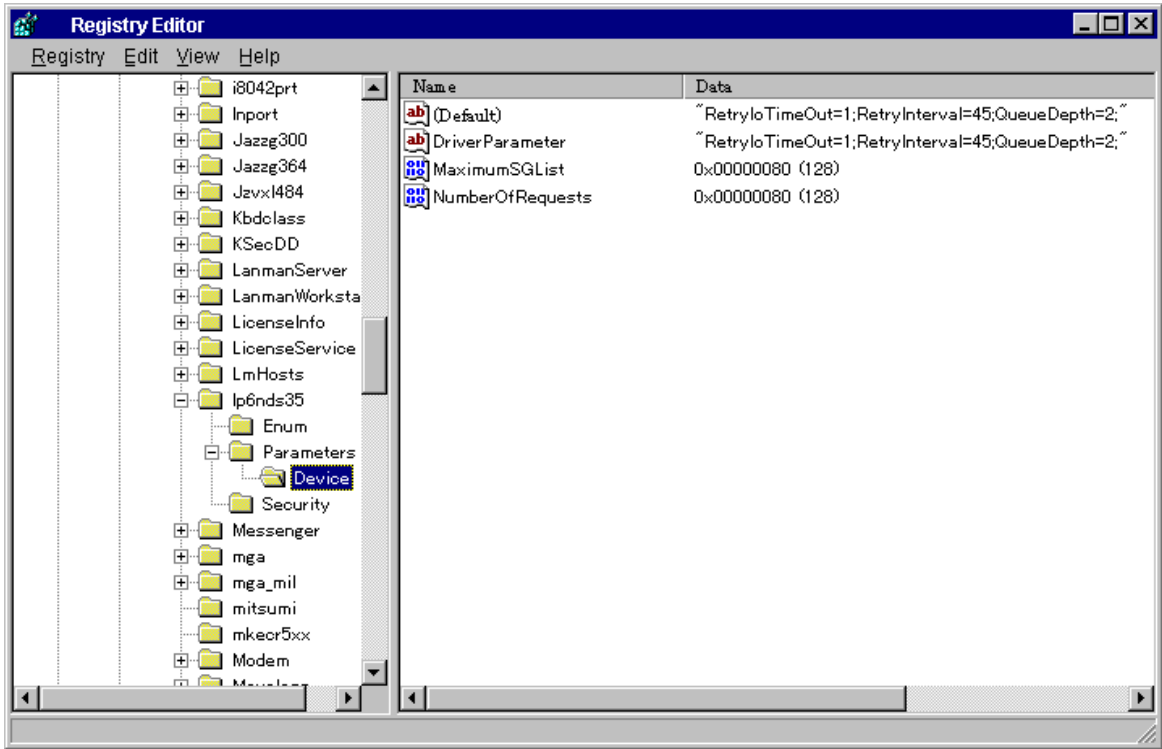

Figure 2.2 Verifying the Queue Depth (Emulex FC adapters shown)
2. For each Emulex FC adapter (see Figure 2.2):